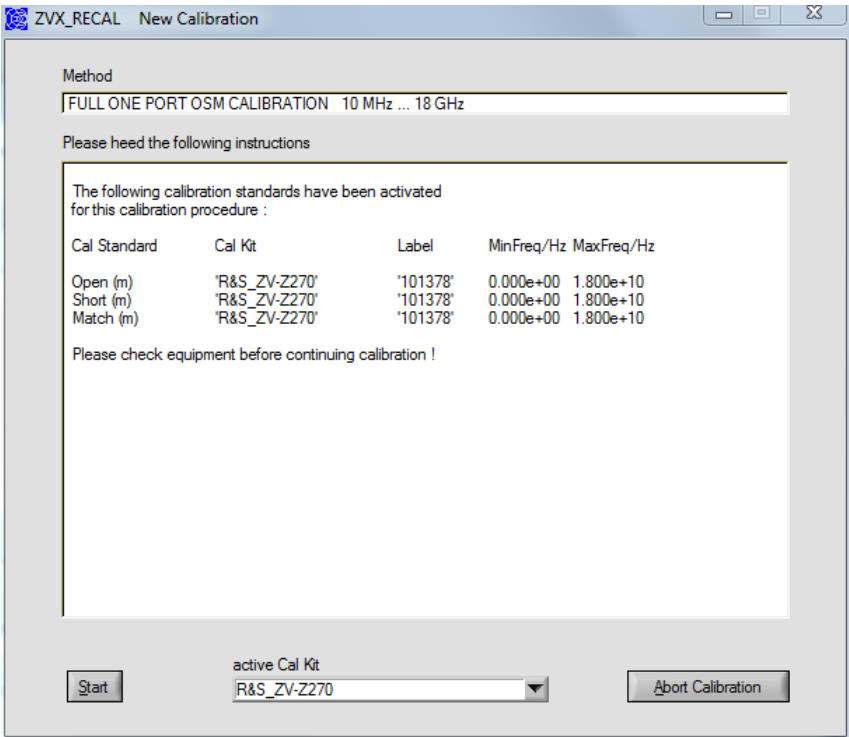

Fig. 6-5 Window for selection of the calibration kit
- Re 7: - In the **Calibration** drop-down list, select the **New: One Port OSM** entry. A window like the one shown Fig. 6-5 will open